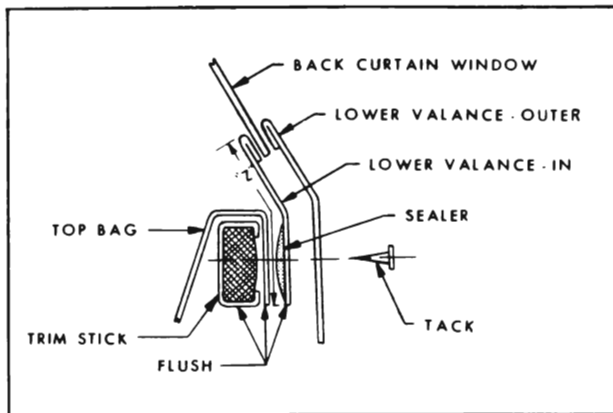
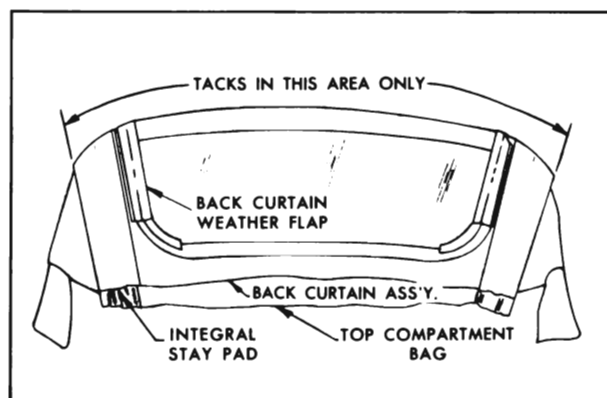

Figure 7-32—Back Curtain Bench Operation
Figure 7-35—Tacking Back Curtain
8. After sealer has dried, turn back window assembly over with exterior (vinyl) surface of back window valance facing down. Apply bead of convertible top sealer along lower edge of back window curtain inner layer in area which will be tacked to rear trim stick (see Figure 7-32).
11. Tack curtain assembly to rear trim stick (see Figure 7-35). Tacks should be placed close to each side of every bolt hole in trim stick. Then pierce or punch back curtain assembly for each trim stick bolt. See Figure 7-32 for tacking of back curtain lower valances at body centerline.